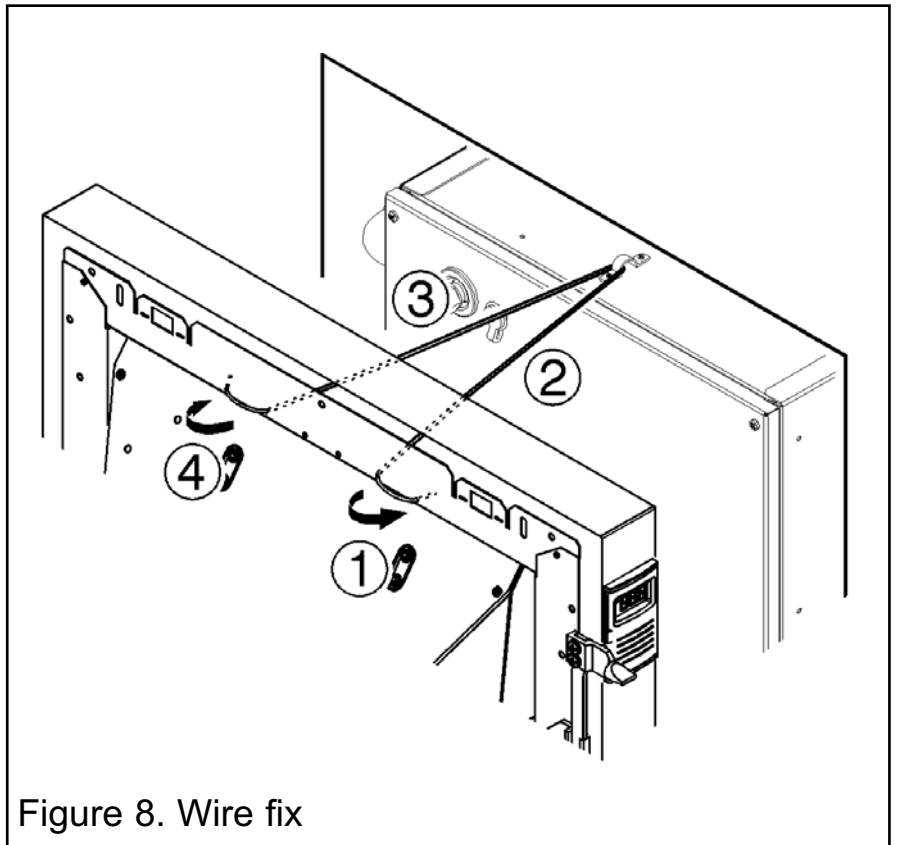

Figure 8. Wire fix
**5.** At the top of the firefront there are four small holes, two each side of the firefront. From the front of the firefront, thread about 50mm of the wire into the outside small hole on the right side of the firefront (See point 1 - figure 8).
**6.** Thread the other end of the wire through the remaining small hole to the left. Continue to push the wire through this hole until there is only a small loop of wire at the front of the firefront (See point 2 - figure 8).
**7.** At the back of the firefront there will be a long piece and a short piece of wire coming through the two holes. Hold the short piece and give the long piece a gentle tug. This will secure the wire. Take the long piece and thread this through the bracket located at the top centre of the boiler (See figure 8).
**8.** From the back of the firefront thread the long piece of wire through the inner small hole on the left hand side of the firefront (See figure 8).
**9.** Locate the firefront in the fireplace opening, then from the front of the firefront, gently pull the wire on the right hand side to gather up the excess until the firefront is secure. Thread the wire through the remaining small hole to lock the wire and firefront in place (See point 4 - figure 8).